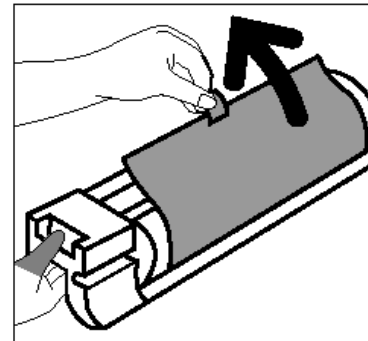

Figure 31: Removing the Protective Instruction Sheet from the Cartridge
- 6** Grab the tab on the Protective Instruction Sheet and pull the sheet out slowly anti-clockwise from the Copy/Print Cartridge, as illustrated in Figure 31.